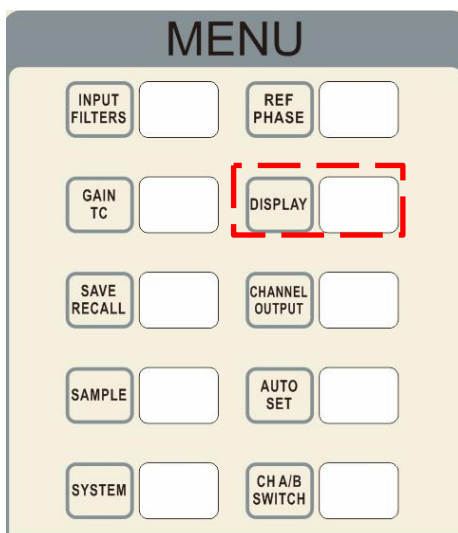
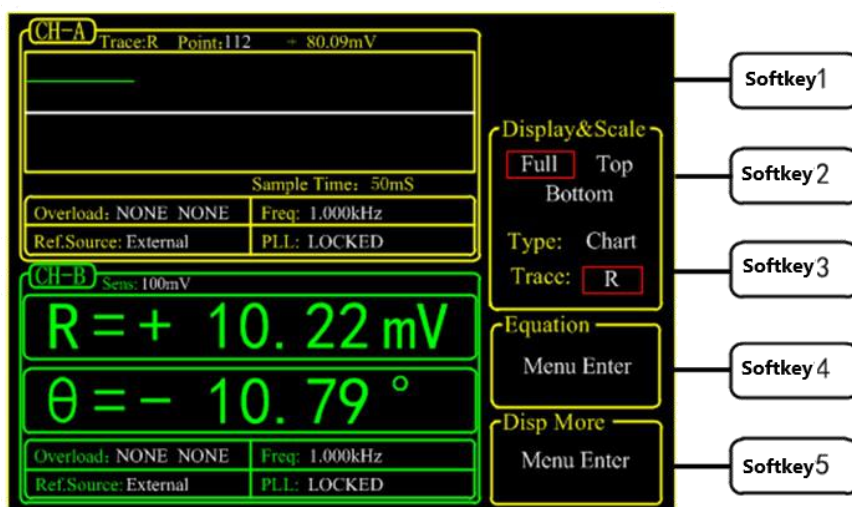

Fig.87 [DISPLAY]
Fig.88 [DISPLAY] Menu Interface
6. The data bar of main interface displays the value of <R>, <X>, <Y> and <θ>. Press [DISPLAY] in front panel to enter the submenu, as is shown in Fig.87 and Fig.88.